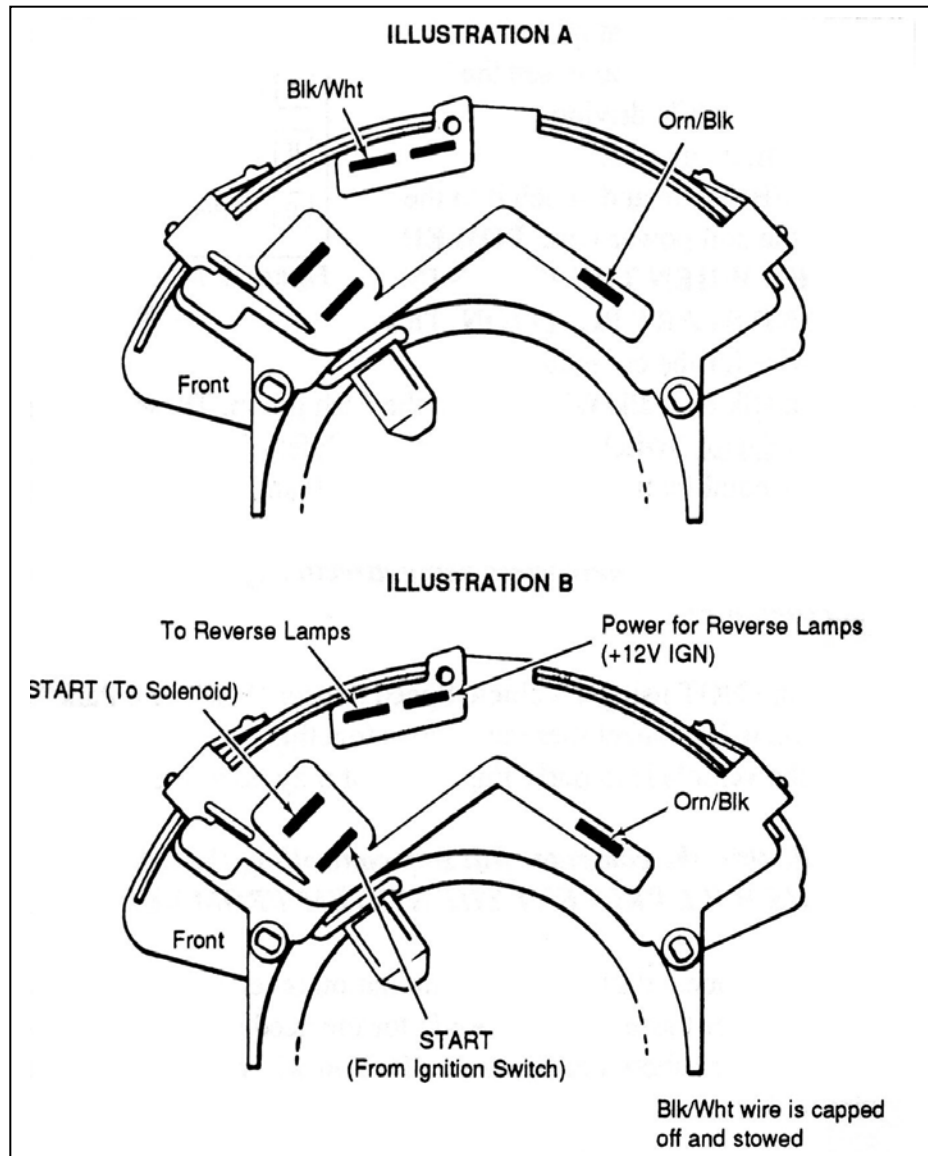

Figure 6.2 Neutral Safety Switch
- Locate the Orn/Blk and Blk/Wht wires in the dash group. These two wires are for the Park/Neutral Selector Switch, NOT the Neutral Safety Switch. If you have a GM column then you can use the combination switch P/N 15679680 and wire it as shown in **FIGURE 6.2**.
2. The recommended switch is a combination reverse light AND neutral safety switch. You may use it for these purposes AND for the needed computer signal if you wire it EXACTLY as shown in **Figure 6.2**. You will need to tape off and store the Blk/Wht wire in this case.
3. If you are going to use the recommended switch for the computer's benefit ONLY, then you will wire it as shown in **Figure 6.2**.